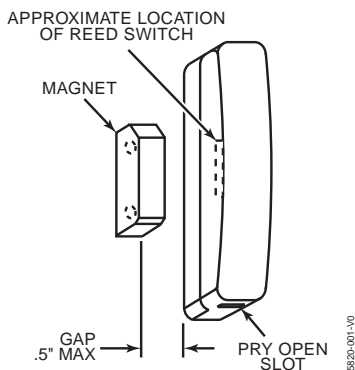

Figure 1. 5820 (Typical Installation Arrangement)
The description that follows assumes that the transmitter will be mounted as shown in Figure 1, with the magnet located adjacent to the unit's left side. The transmitter may, however, be installed in *any* direction, as long as the relationship of the unit to the magnet is maintained as shown in Figure 1.
2. If the Go/No Go test was ok, **remove the transmitter's cover** by inserting the flat blade of a small screwdriver into the slot at one end of the unit as shown in Figure 1, and pulling the cover up.
5. **Mount** the magnet (supplied) adjacent to the two vertical positioning lines on the case side (see Figure 1). The gap can be one-half an inch maximum.